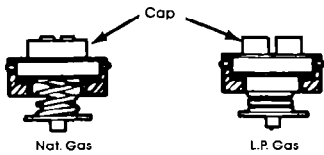

Figure 6
2. Remove the cap with screwdriver slot; turn it over; then replace the cap. This cap will then have the marking "LPG10." Do not disturb or remove the spring beneath this cap. See Figure 6.